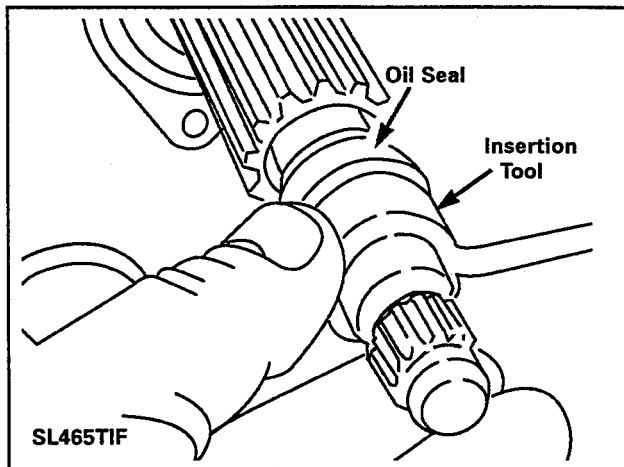

Figure 7-7d
5. Place the seal protector tool, by sliding the tool over the drive shaft and up to the seal cavity (*Figure 7-7d*).